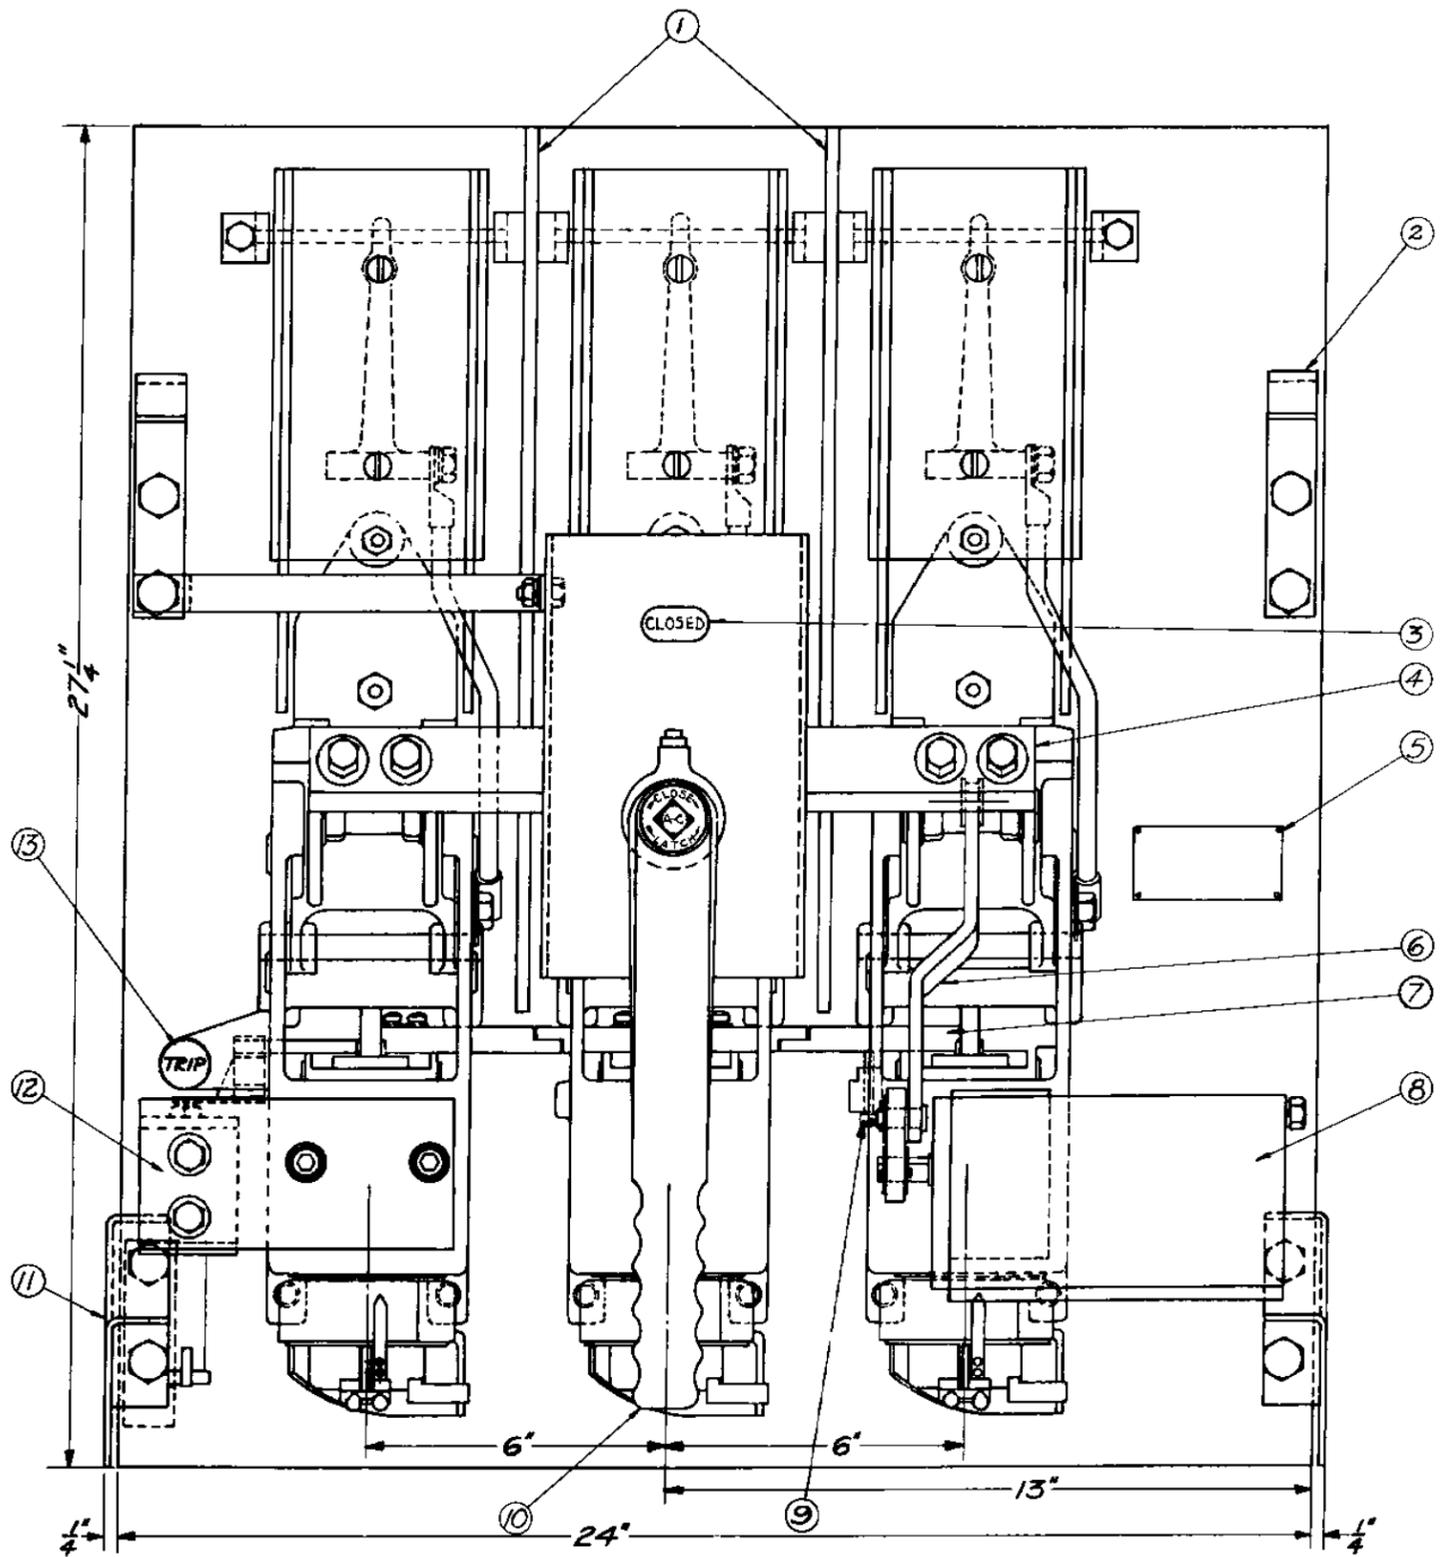

Fig. 1
- Fig. 1—Manually Operated Breaker (*Front View*)